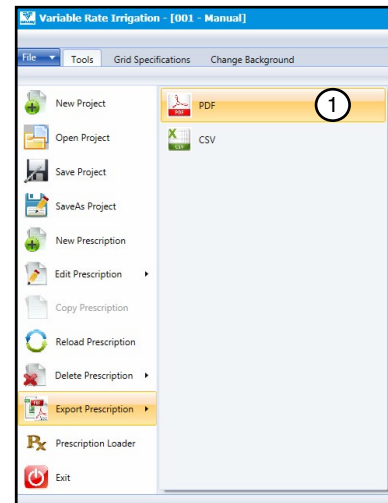

Figure 32-1 1. Export to PDF
1. Select **Export Prescription** in the VRI drop-down menu and click on **PDF**. See Figure 32-1.